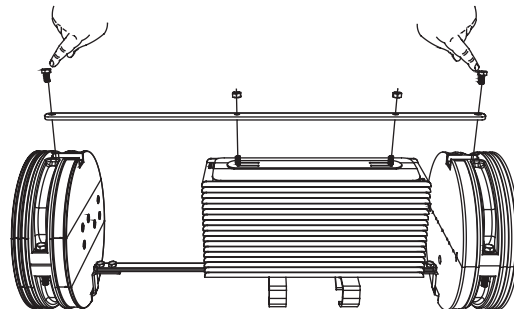

FIGURE 25 - SECURE SPLICE TRAYS
- 13.03** Secure the splice trays to the threaded parts with the splice tray hold down strap and install the top torque bar (Figure 25).